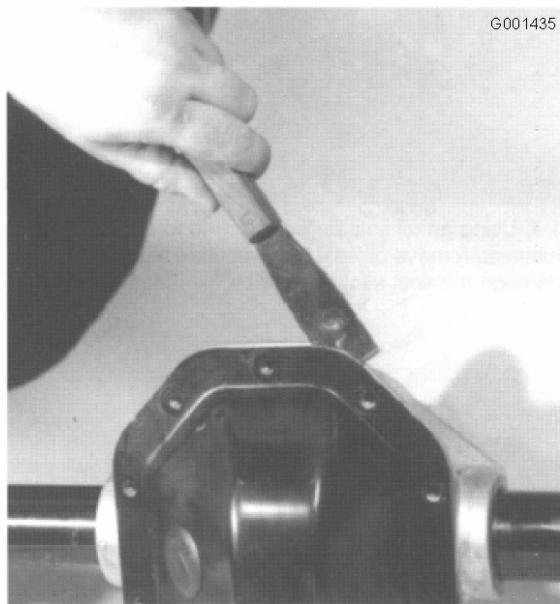

Figure 7
- 3. Use a putty knife to separate the cover plate from the housing (Figure 7). Discard the cover plate and old gasket.